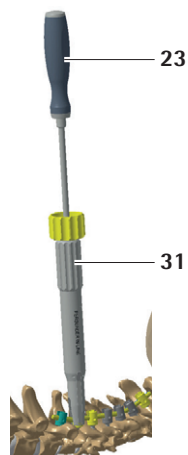

Fig. 33
- ▶ Insert the set screw through the rod persuader in-line **31** (SZ080R) using the single-ended set screw starter **23** (SZ069R), see Fig. 33.